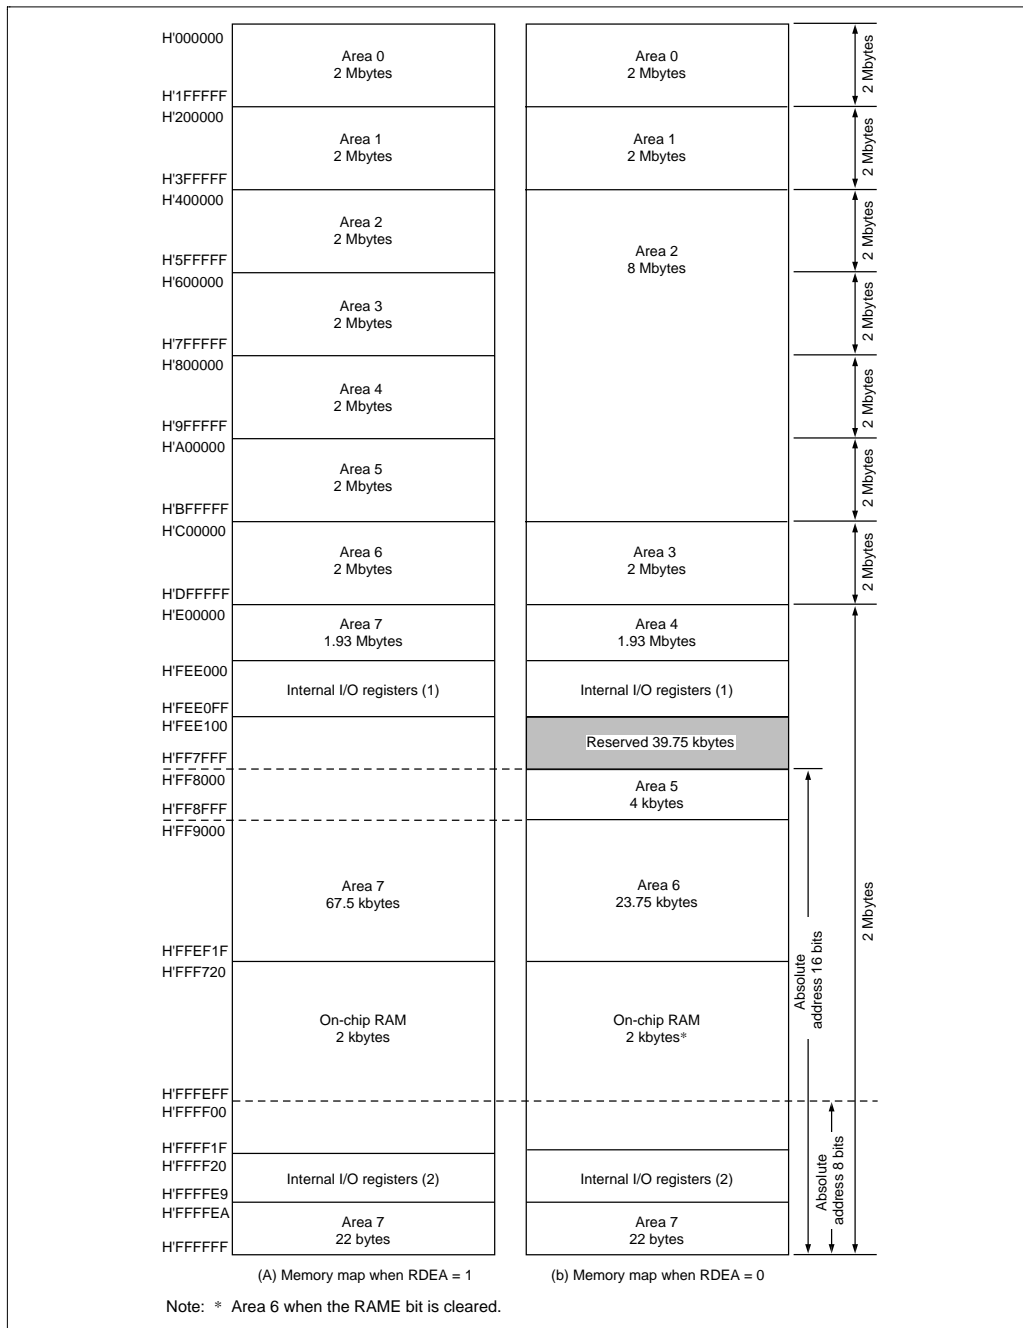

Figure 6.3 Memory Map in 16-Mbyte Mode
Figure 6.3 Memory Map in 16-Mbyte Mode (H8/3062F-ZTAT, H8/3062F-ZTAT B-Mask Version, H8/3062 Mask ROM Version, H8/3061 Mask ROM Version, H8/3062 Mask ROM B-Mask Version, H8/3061 Mask ROM B-Mask Version) (1)